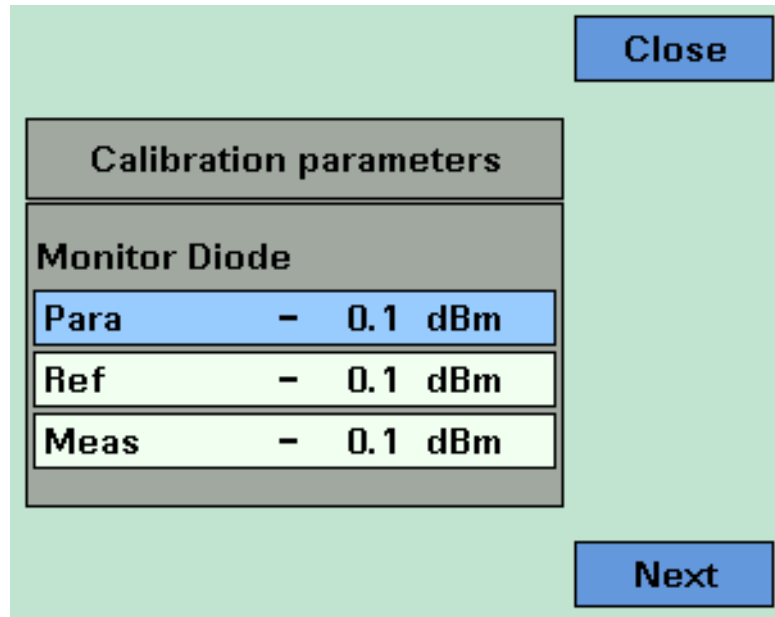

Figure 109 The Calibration Parameters Screens - Monitor Diode
**2** Press [Next]. The *Calibration parameters* screen for the *Monitor Diode* appears, as displayed in Figure 109 . This screen shows current value for the following quantities: